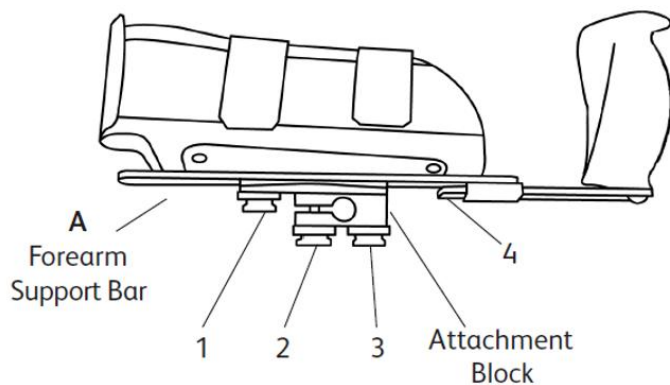
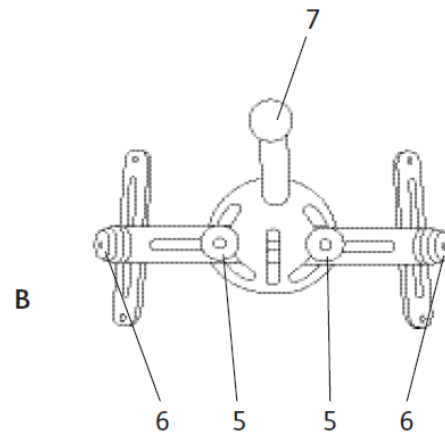

Figure 2
Figure 3
1. Familiarize yourself with the adjustment capabilities before applying device to the patient. See **FIGURE 2** and **FIGURE 3** for diagram of adjustments.